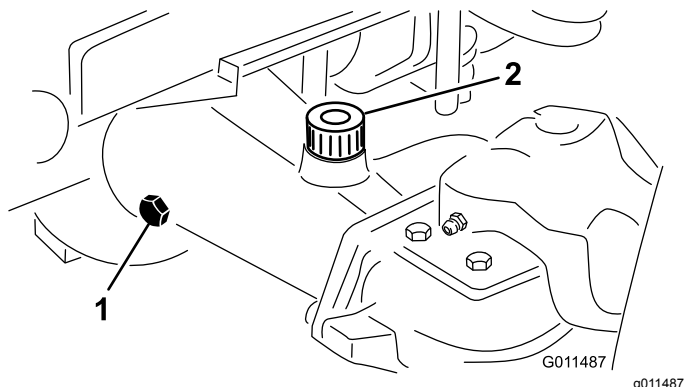

Figure 17
2. Remove a check plug from one end of the axle and ensure that the lubricant is up to the bottom of the hole (Figure 17).